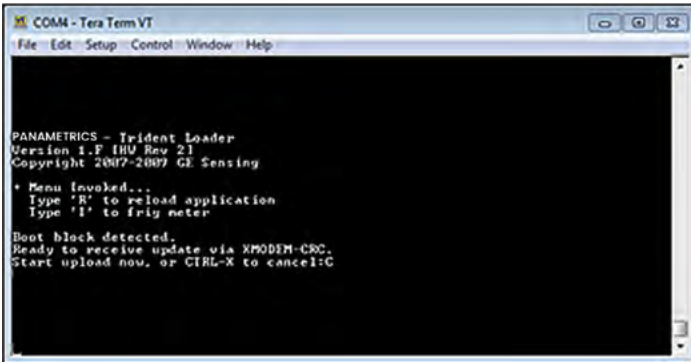

Figure 83: Tera Term indicates meter is ready to receive Update
2. Press **R** (not case sensitive) using your PC keyboard and the *Tera Term* terminal window indicates that the meter is ready to receive the update via XMODEM-CRC (see *Figure 83* below). Select *file*, *transfer*, *XMODEM*, and *send* in the subsequent drop-down menus.